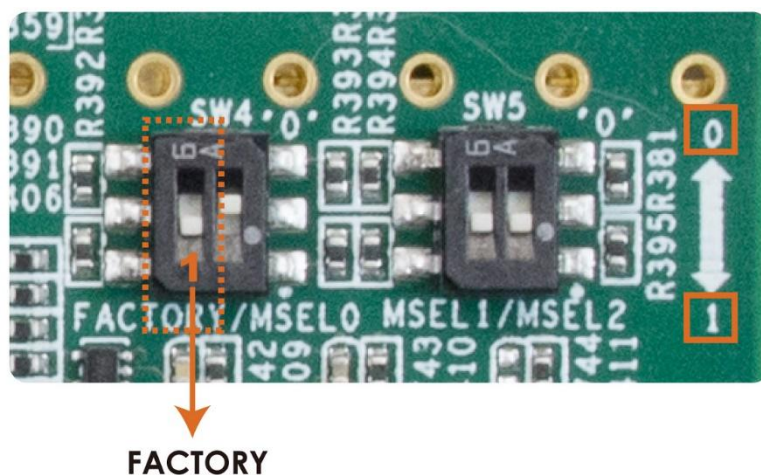

Figure 4-2 Configuration Image Selection
3. Specify the configuration of the FPGA using the default Factory Configuration Image or User Configuration Image by setting SW4 according to **Figure 4-2**. When the switch is in position “1”, the factory image is used when the system boots. When the switch is in position “0”, user image is used when the system boots.